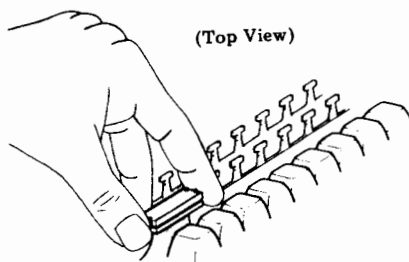

Fig. 15—Cable Connector Removal
- Exert upward force until cable connector releases (Fig. 15).